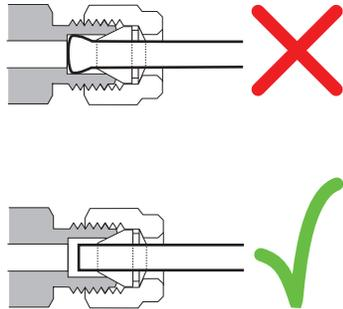

Figure 20. Completed fitting
- Both correctly and incorrectly swaged connections are shown in **Figure 20**. Note that the end of the tubing in a correctly swaged fitting is not crushed and does not interfere with the action of the ferrules.